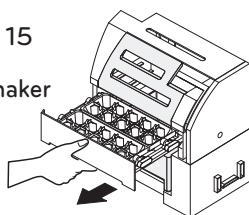

Fig. 16
- Clean the inside and the outside of the tray with a mild soap, rinse with tap water. Fig. 16.